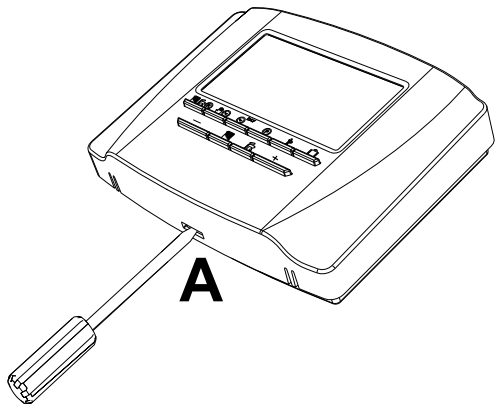

fig. 4
1. Remove the front by prying with a screwdriver at point A, as shown in “fig. 4” on page 71.